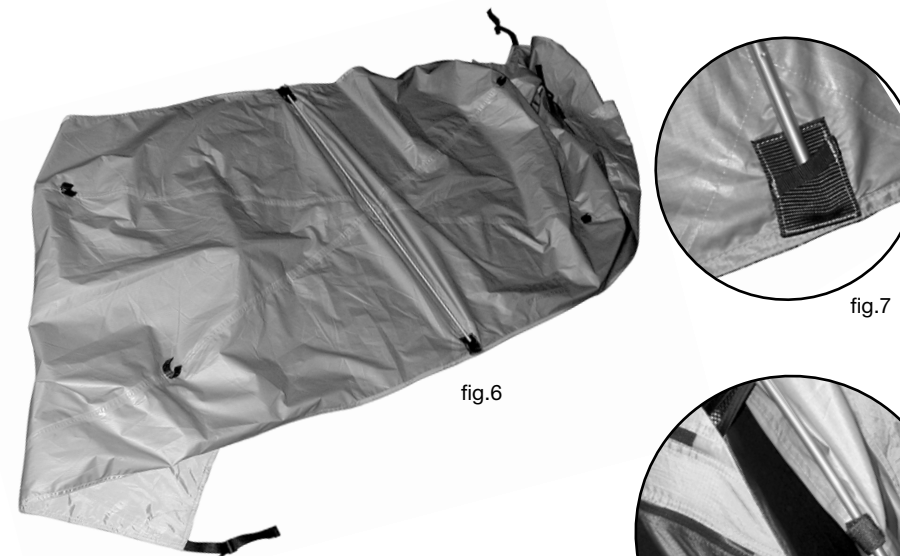
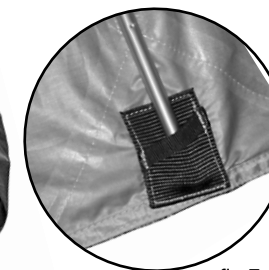

fig.6
fig.7
- Unroll the fly, upside down, on the ground. Locate the web pockets in the center of the fly and insert the assembled fly rod into these pockets. See fig.6 & fig.7.